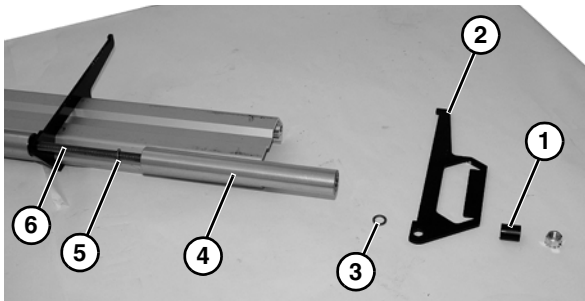

Figure 58
22. Remove spacer (**Figure 58, item 1**), plate (**Figure 58, item 2**), washer (**Figure 58, item 3**), roller (**Figure 58, item 4**), second washer (**Figure 58, item 5**) from axle shaft (**Figure 58, item 6**).